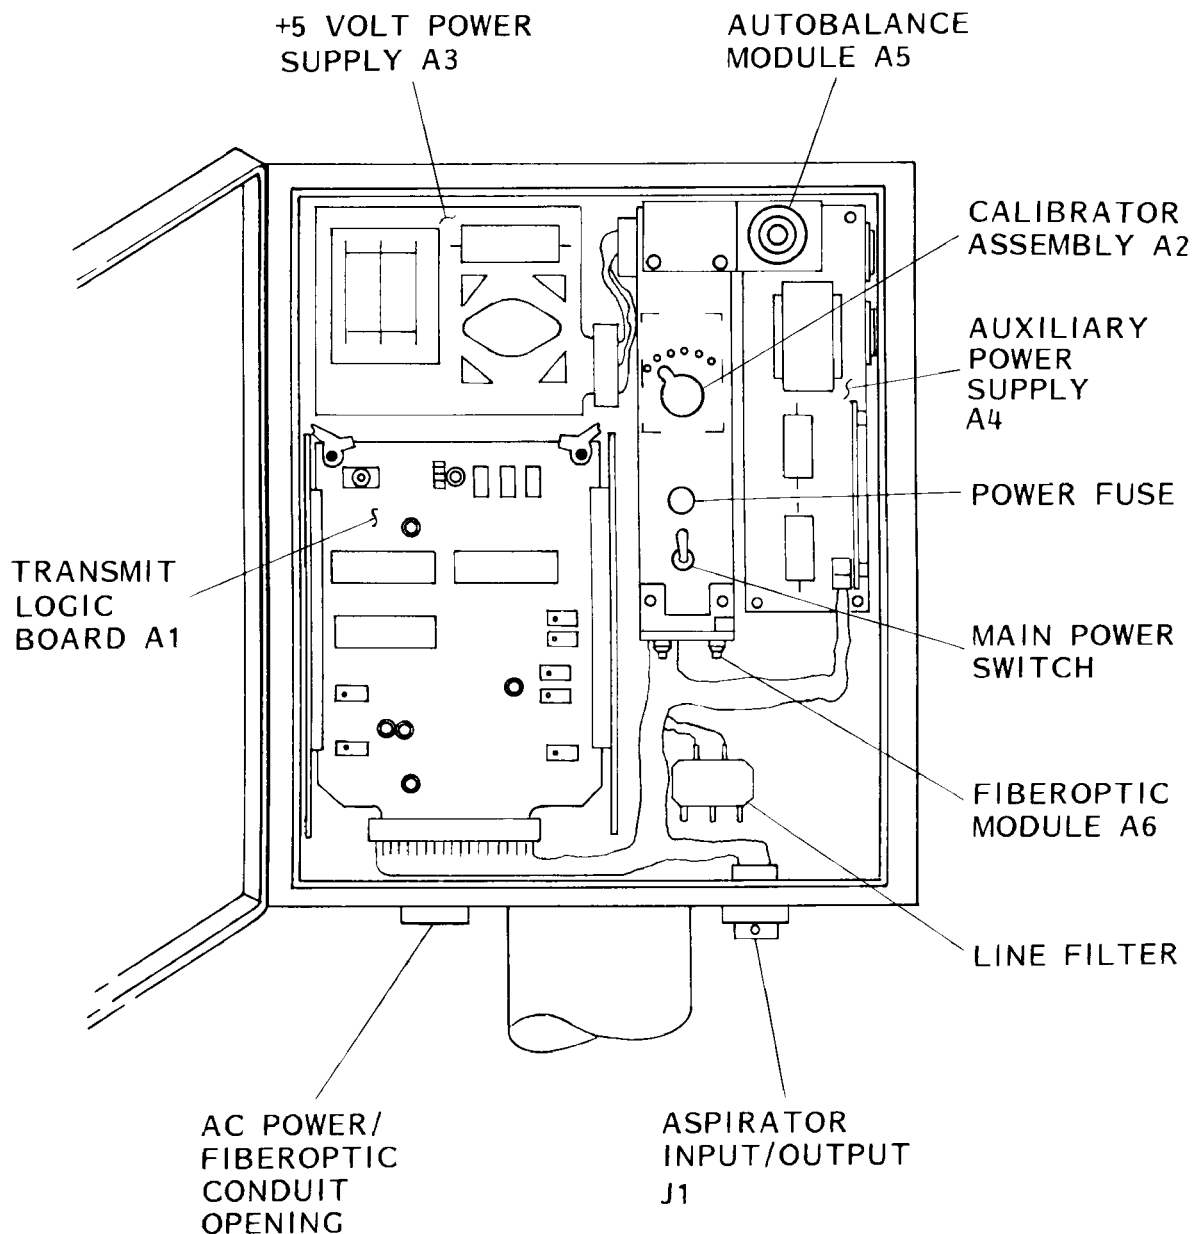

Figure 5.1.3. Transmitter Component Location
5.1.2.5 **Transmitter 2MT4A2.** The transmitter (figure 5.1.3) consists of an outer protective housing, chassis subassembly, transmit logic board, calibrator assembly, +5 volt power supply, auxiliary power supply, ac input terminal block, signal out terminal block, line filter, main power switch, heat/cool switch, power fuse, autobalance module, and fiberoptic module.